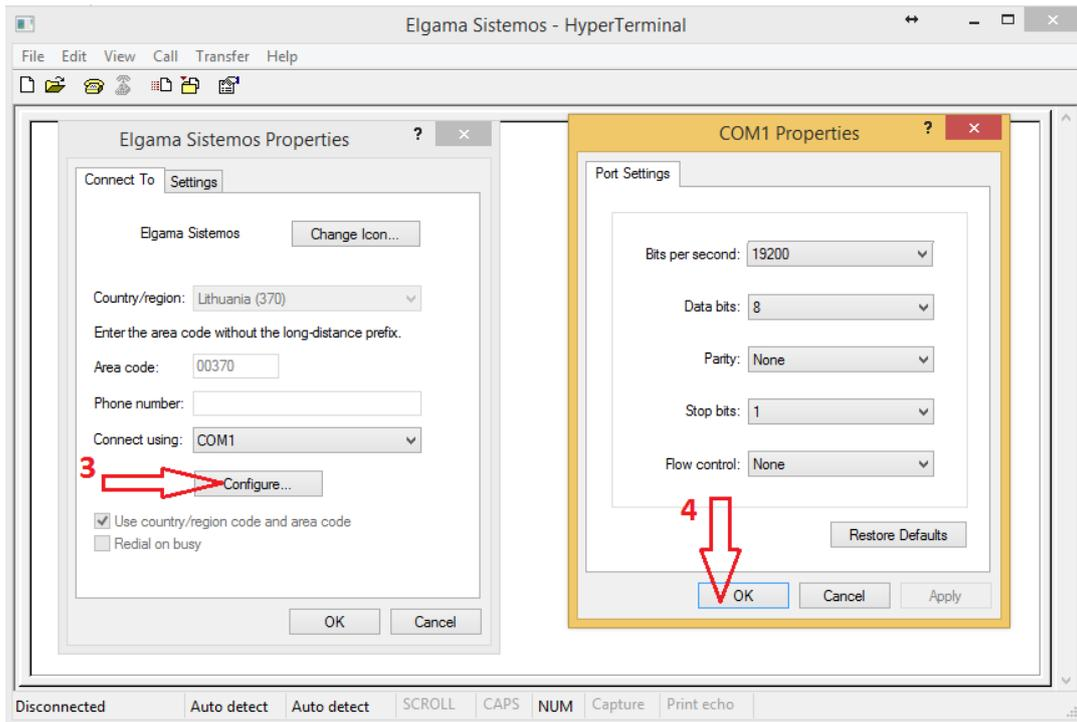

Figure 6.2-6
3. Press *Configure* button as shown on figure 6.2-6 (arrow 3);
4. Press *OK* button as shown on figure 6.2-6 (arrow 4);